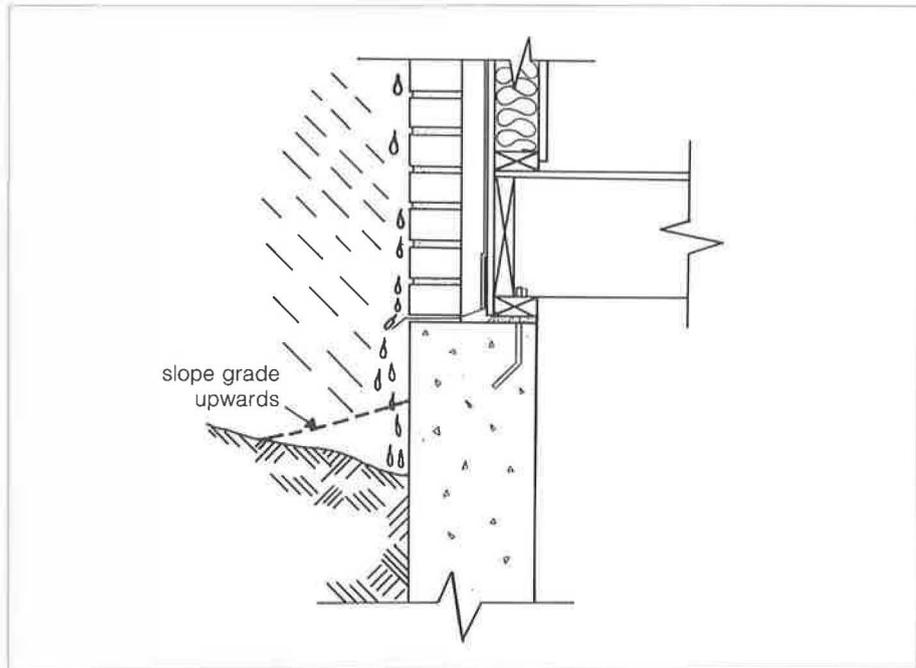

Fig. 22. Water entry into basement area
- Slope all surface grades away from the house. A slope of 10 per cent should be adequate. This includes paved as well as grassed areas (fig. 22).